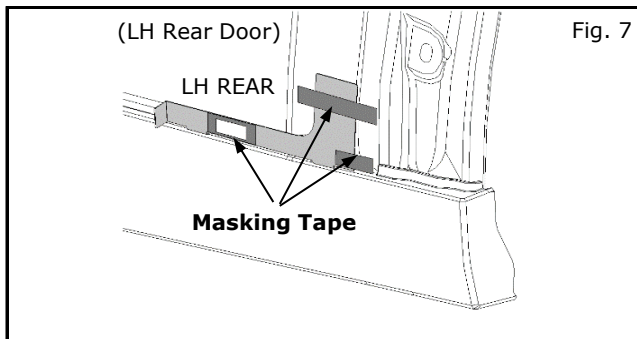

Fig. 7
- 11) Tape LH Rear template with masking tape in locations shown. (See Fig. 7)